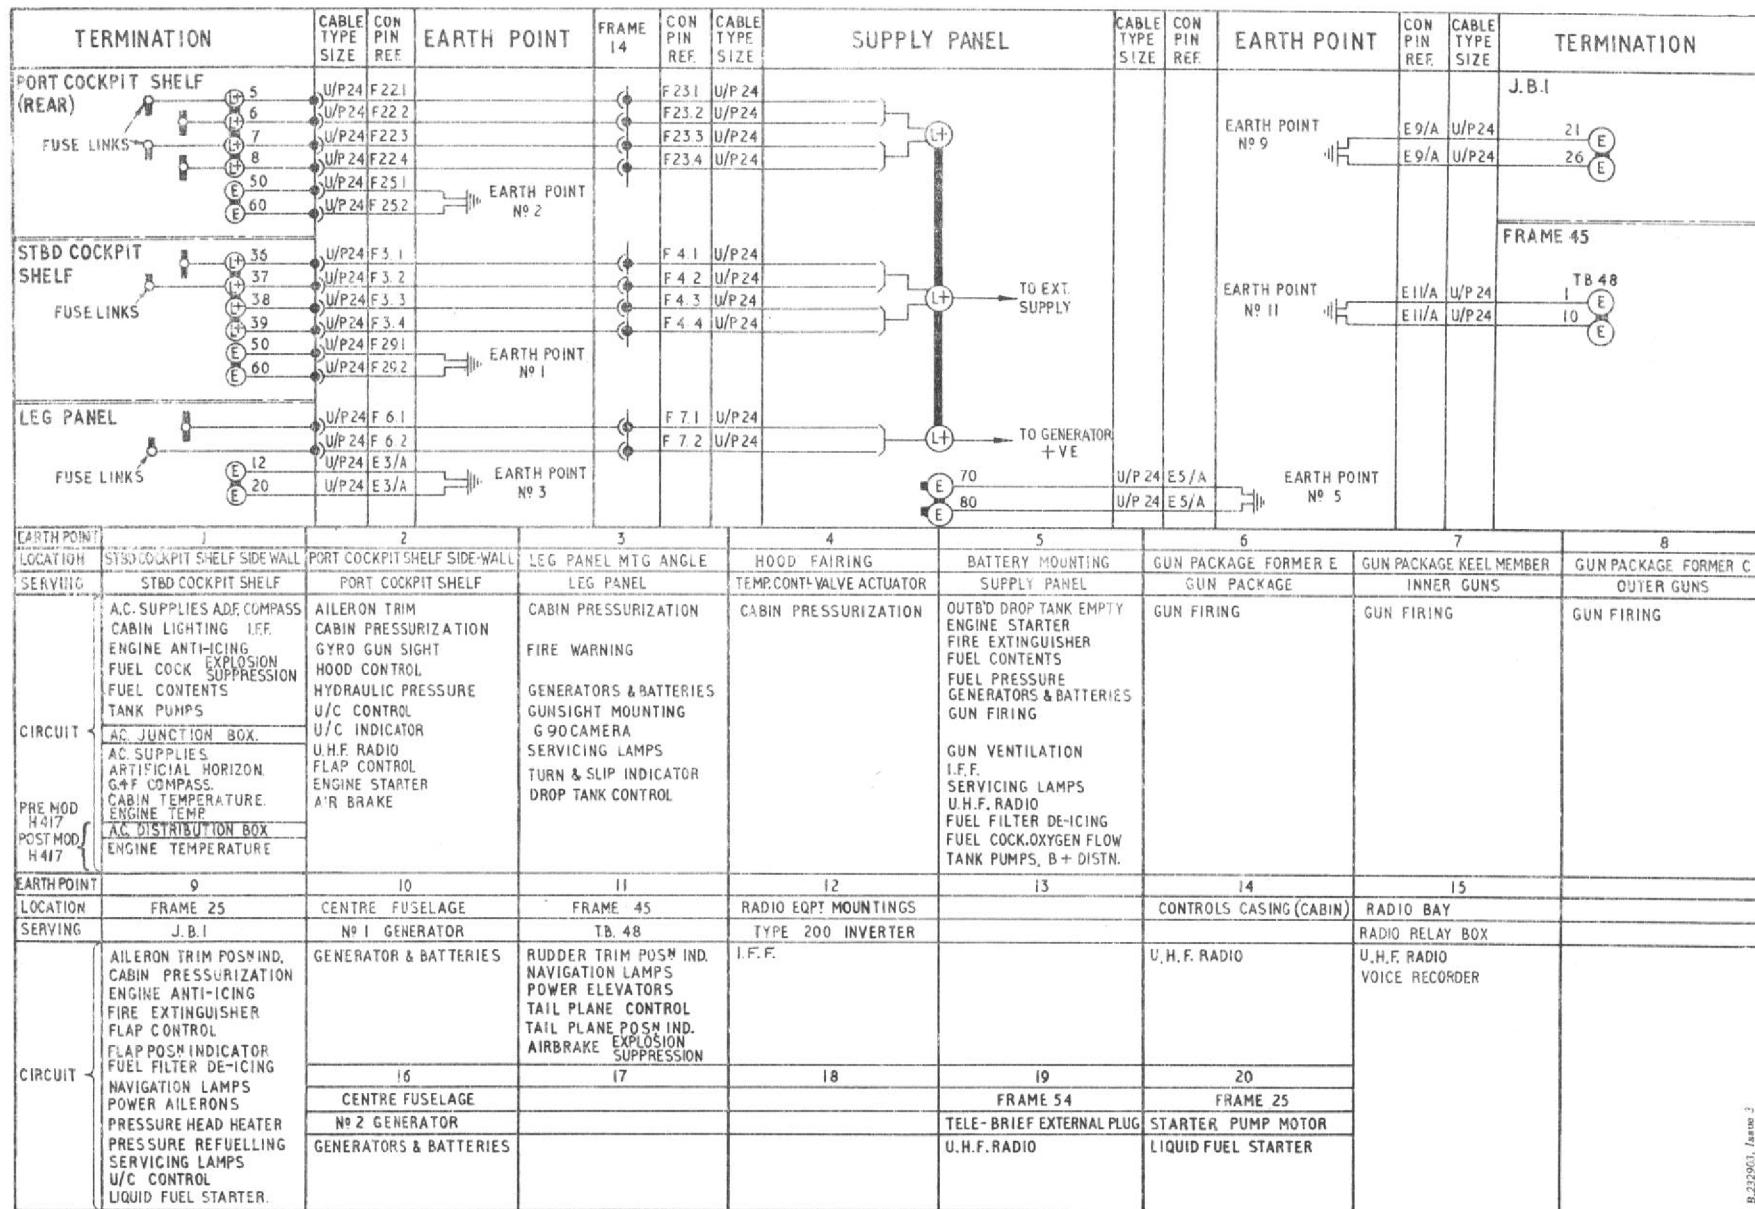

Fig. 1 Supply and earth routeing chart
cable assemblies are provided with fully weatherproof multi-pole plug and socket breakdown points. Whenever possible the cable connections to the plug and socket pins are crimped. To facilitate servicing and testing, the earth return connections are restricted in number and taken to stud type earth points, which are shown on the cable assembly layout, (Group A.3, fig.1) and listed on the supply and earth routeing chart, fig.1 of this group.
4. The generators are mounted on, and driven by the auxiliary gearbox situated in the engine bay, and their control equipment is mounted on a panel located on the starboard side of the radio bay. The batteries are mounted on a platform also located in the radio bay. The supply from the generators and batteries to the fuse bus-bars is shown, together with the earth return points, on fig.1 of this group.